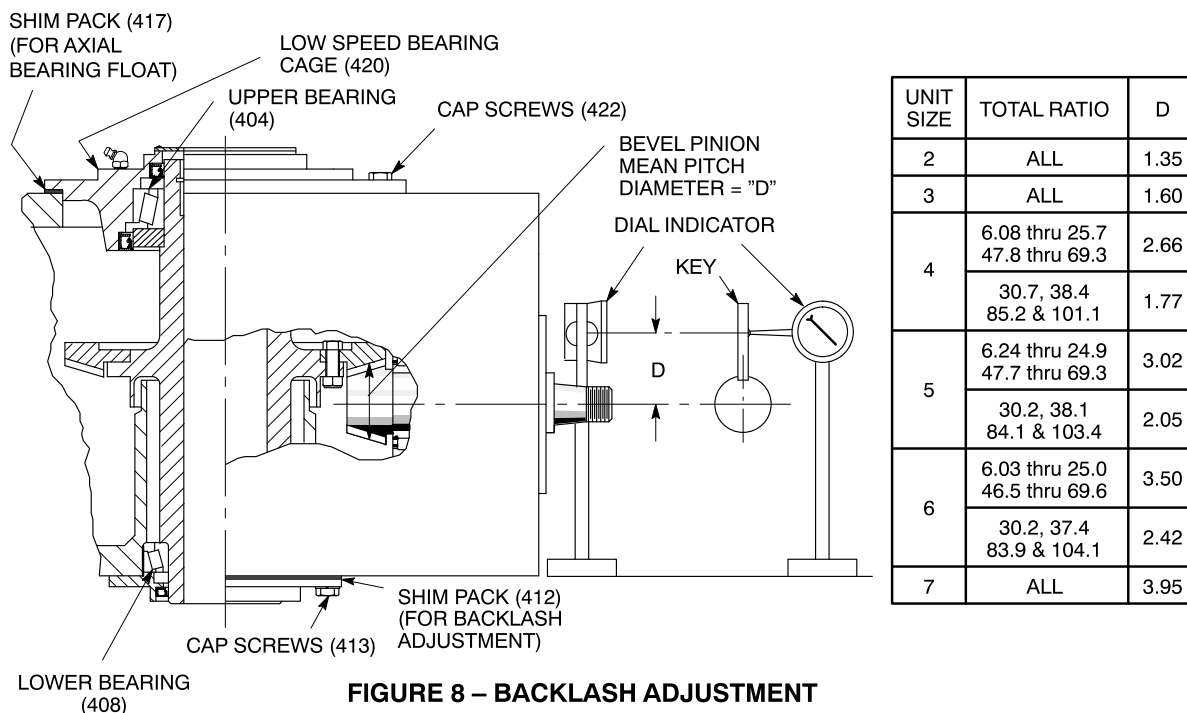

FIGURE 8 – BACKLASH ADJUSTMENT
5.2 SETTING THE BACKLASH (SEE FIGURE 8)
- a . Carefully lower the low speed shaft (402) assembly into the housing (2).
- b . Install low speed bearing cage (420) with the full shim pack (417) and tighten the 4 cap screws (422).
- d . To measure the backlash (see Figure 8):
- 2 . Rotate the bevel pinion shaft (101) back and forth while holding the low speed shaft immobile and read the backlash on the indicator. The indicator reading should be two times the backlash etched on the bevel gear.
- e . To obtain the required backlash, add or remove shims from the lower shim pack (412) equal to 1/2 the indicator reading. Loosen and retighten the 4 upper bearing cage cap screws (422) and tap down the low speed shaft (402) each time the shim pack (412) is adjusted. When the proper backlash is obtained, measure the total shim pack.
- f . The final indicator reading should be 2 times (BL) etched on the bevel gear within a tolerance of plus .004, minus .000.
- g . If backlash is satisfactory, tighten the cap screws (413). Recheck the backlash.